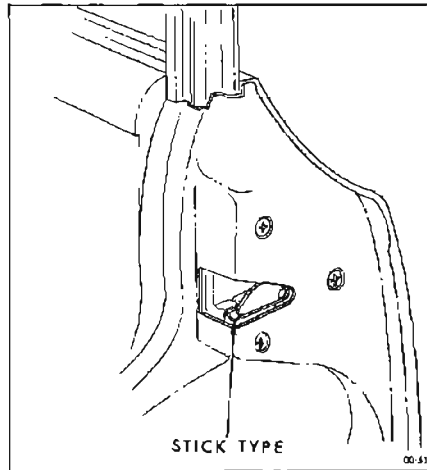

Figure 00-51—Door Lock Striker Bolt
- Door Lock Striker Fort Bolt - Stick Type Lubricant. See Figure 00-51.